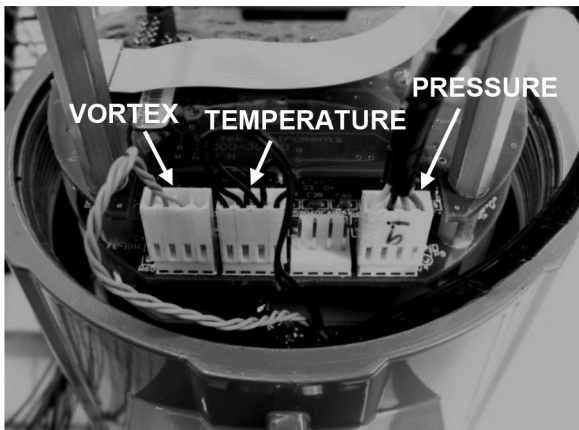

Figure 5-1. Electronics Stack Sensor Connections
3. Using ESD precautions and hazardous area precautions, remove the electronics enclosure window cover. Disconnect the vortex sensor from the electronics stack or remote feed through board. Refer to Figure 5-1 or 5-2. Measure the resistance from each outside pin to the meter ground - each should be open. Measure the resistance from the center pin to the meter ground – this should be grounded to the meter.
3. Using ESD precautions and hazardous area precautions, remove the electronics enclosure window cover. Disconnect the temperature sensor from the electronics stack or the remote feed through board. Refer to Figures 5-1 or 5-2 and 5-4. Measure the resistance across the outside pins of the temperature sensor connector. It should read approximately 1080 ohms at room temperature (higher resistance at higher temperatures). Measure the resistance across the inside pins, they should read the same.
3. Locate the sensor harnesses which come up from the neck of the flow meter and attaches to the circuit boards. Make note of the location of each sensor connection. Refer to figures 5-1 and 5-2. The vortex sensor connection is on the left, the temperature sensor connection (if present) is second from the left, and the pressure sensor connection (if present) is the right most connector. Use small pliers to pull the sensor wiring connectors off of the circuit boards.